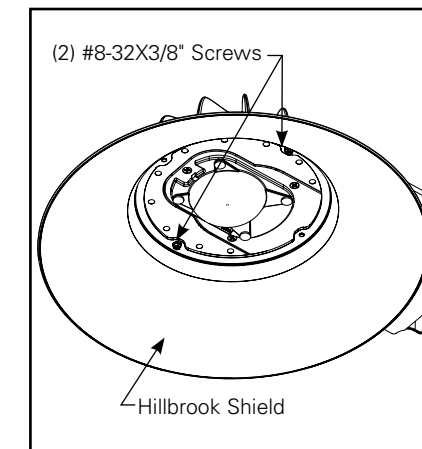

Figure 14.
1. Insert provided 8-32 x 3/8" screws into mounting holes to fasten the Hillbrook Shield to the housing. (Figure 14.)